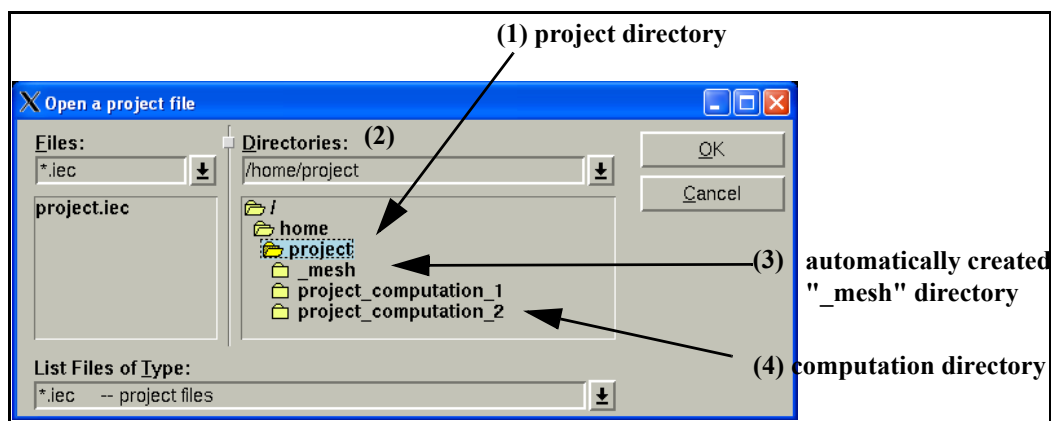

FIGURE 2.2.1-4 Directories managed through FINE™/Turbo
5. A *Grid File Selection* window (Figure 2.2.1-5) appears to assign a grid to the new project. There are three possibilities: